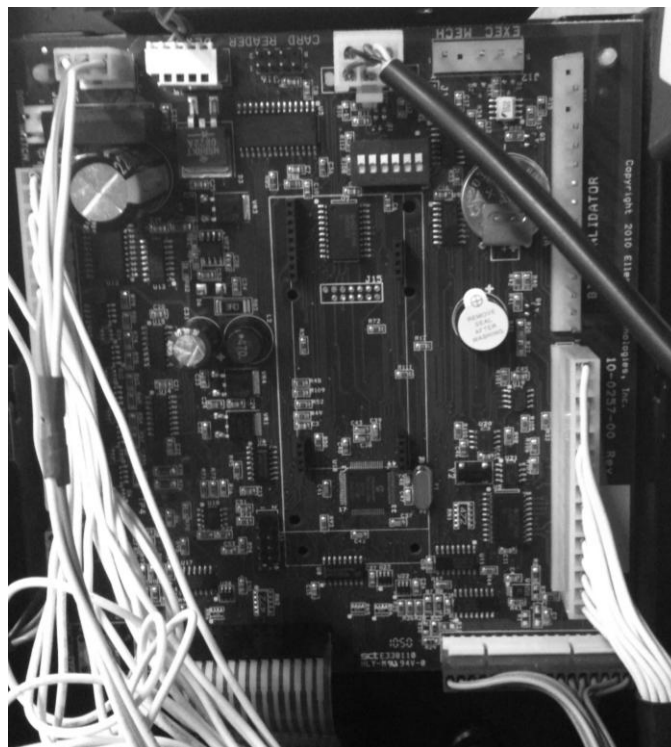

Figure 6. (set up is for MDB BV and micromech coin)
6. Connections to the board may now be made. Shown below in Figure 6.